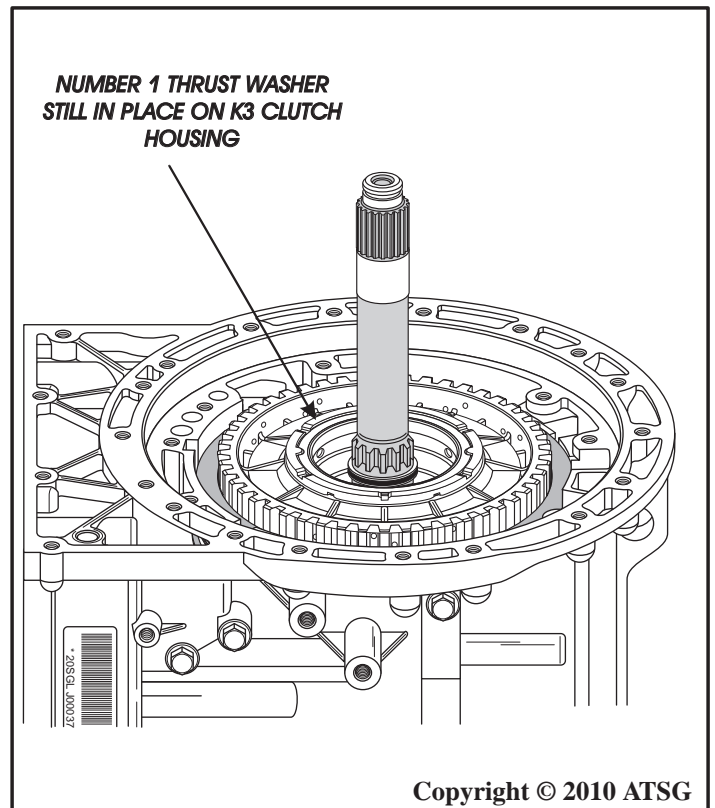

Figure 225
49. Ensure number 1 thrust washer is still in place on the K3 clutch housing (See Figure 225).